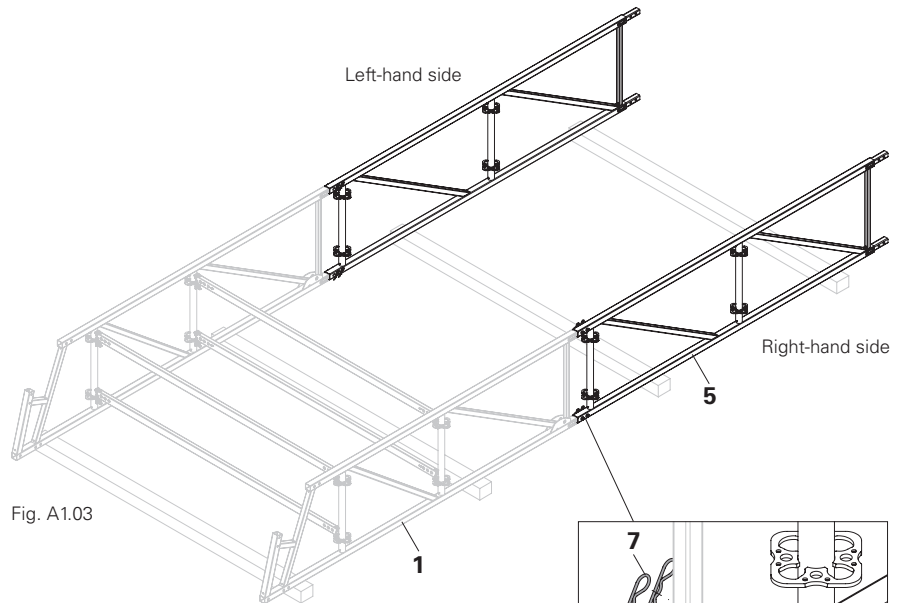

Fig. A1.03
- Slide the upper and lower chords of the standard element (**5**) onto the pins of the eaves elements. (Fig. A1.03)